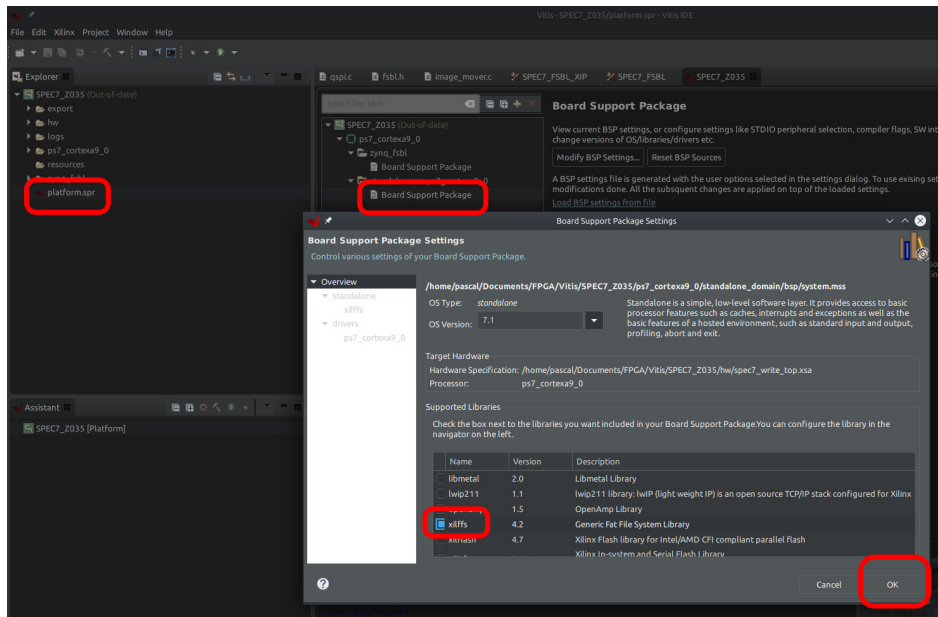

Figure 37: Include xilffs in the platform file in Vitis
7. Include the Xilffs package by clicking on the “platform.spr” file and modify the BSP in the standalone domain to include xilffs. As can be seen in figure 37.